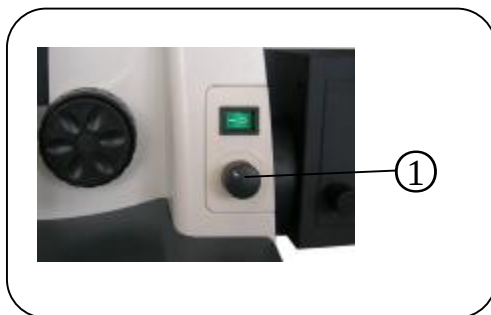
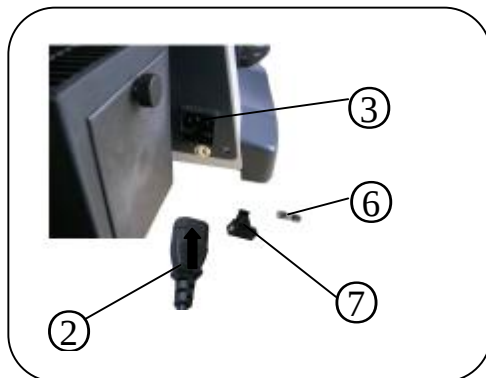
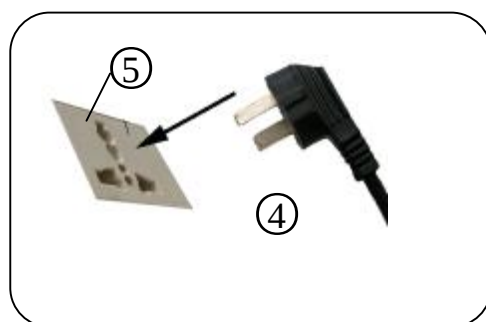

Fig. 21.
Fig. 22.
Fig. 23.
- 1) Unscrew the screw ① on the top of the left side, hold the cover and take it off softly
- 2) The halogen bulb ② should not have fingerprint on it, don't touch bulb by finger directly when changing the bulb, please wear gloves or encase the lamp with clean paper when inserting bulb into socket.
14. Connecting power cable (Fig. 21. Fig. 22. & Fig. 23.)
- 1) Turn the power switch ① to “O” (OFF), then connect the power cable.
- 2) Insert the plug ② into the inlet ③, and make sure the connection is good.
- 3) Insert another end plug ④ of the power wire to the power supply socket ⑤
15. Replace the fuse (fig.22)